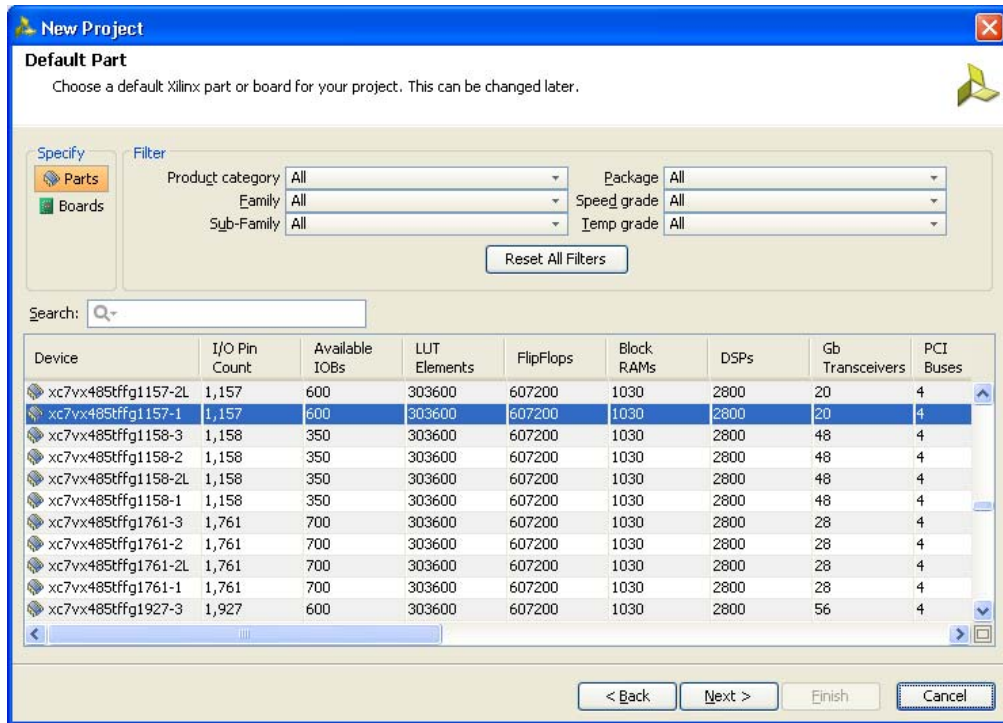

Figure 2-8: Default Part (Default Window)
- Click **Next** to proceed to the **Default Part** page (Figure 2-8) where the device that needs to be targeted can be selected. The **Default Part** page appears as shown in Figure 2-8.